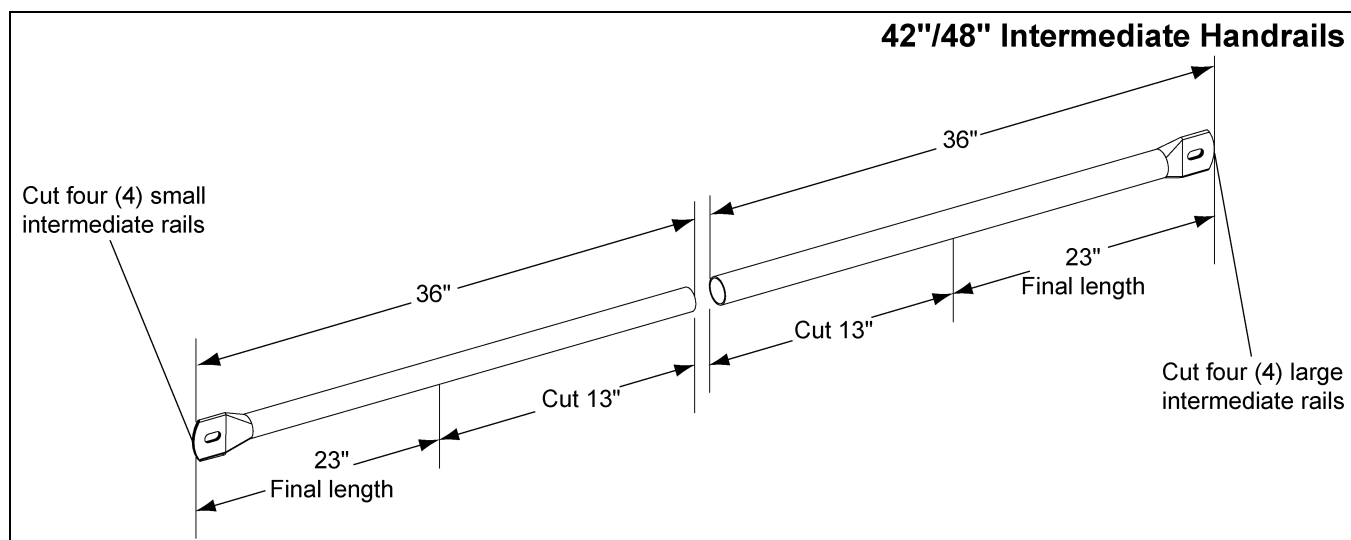

Figure 7K 42\"/>
Two (2) of the small intermediate handrails (LDR-4088) and two (2) of the large intermediate handrails (LDR-4087) will need to be cut to fit. The starting length of each handrail is 36". Cut 13" off the end of each rail so the final length of each rail is 23". (See Figure 7K.)